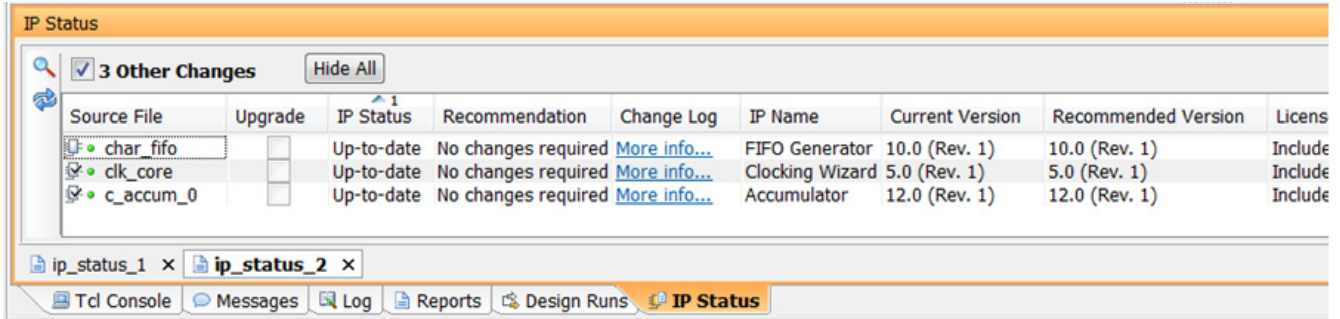

Figure 2-24: Report IP Status View in GUI
- In the IP Status window (Figure 2-24, page 35) that opens when you run the **Report IP Status** command, click the **Upgrade** option next to the IP.
You can view the status report of IP in a project using the **Tools > Report > Report IP Status** pull-down menu. A new tab titled **IP Status** displays the report results. Multiple runs cause additional reports to display in the IP Status tab (Figure 2-24, page 35).